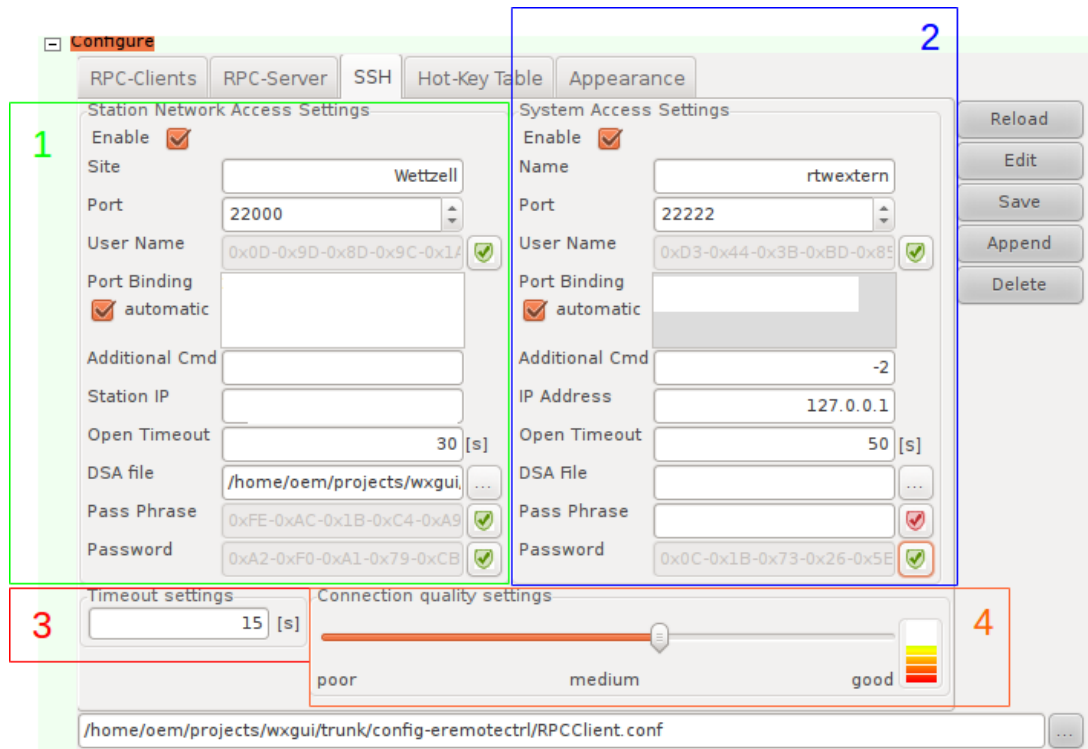

Figure 1.8: The configuration tab for the settings of the SSH tunnels.
The GUI client can use automatically administrated SSH tunnels to communicate through firewalls. The third tab is used to setup these tunnels (see fig. 1.8).
- Section for the "Station Network Access Settings" to pass firewalls of an observatory with a tunneled SSH connection (see the green section in fig. 1.8). If this is used, also the "System Access Settings" must be defined. Each SSH setting section has the following elements:
- Section for the "System Access Settings" to access the NASA Field System PC via a tunneled SSH connection (see the blue section in fig. 1.8). For the elements see the explanations for the "Station Network Access Settings" section.
- Section to define the timeout for the SSH connection (see the red section in fig. 1.8). After the defined time (in seconds) the SSH connection is closed and re-established again automatically. The timeout settings should correspond to the settings of the "Request Timeout" in the "RPC-Clients" tab. In best case it is a value, which is three times of the "Request Timeout" in the "RPC-Clients" tab. The SSH timeout avoids a blocked SSH tunnel over long distance communications on the world-wide network.
- Section to adjust internal parameters to deal with different network and connection qualities (see the orange section in fig. 1.8). With the slider it is possible to select different steps of communication qualities from "poor" to "good". A well adapted quality avoids unnecessary reconnects.